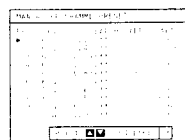

Fig. 23.
- 3 Select «Manual Programme Preset» with Δ or ∇ and press OK. The «MANUAL PROGRAMME PRESET» menu appears. (See Fig. 23.)